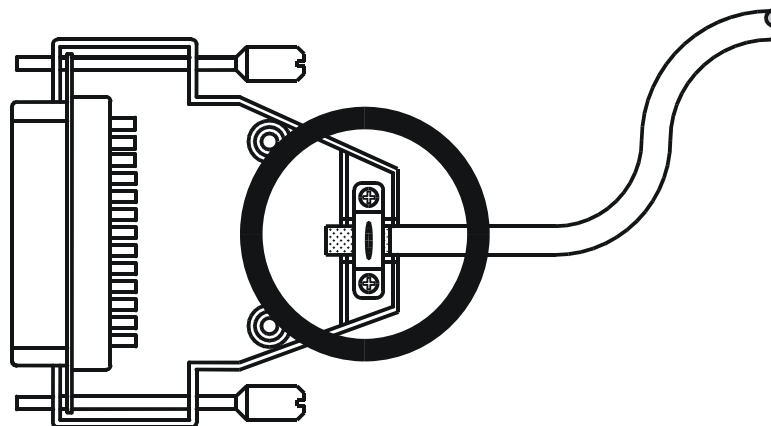

Fig.: 2: Shielding of SUB-D connectors in conformity with EMC standards
- Only use metallized connectors, e.g. SUB-D with metallized housing. Make sure that the strain relief is directly connected with the housing here as well (see fig. 2).